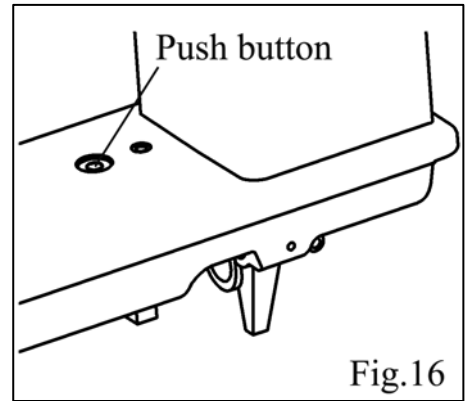

Fig.16
12. Safety clutch device (Fig.16, Fig.17)